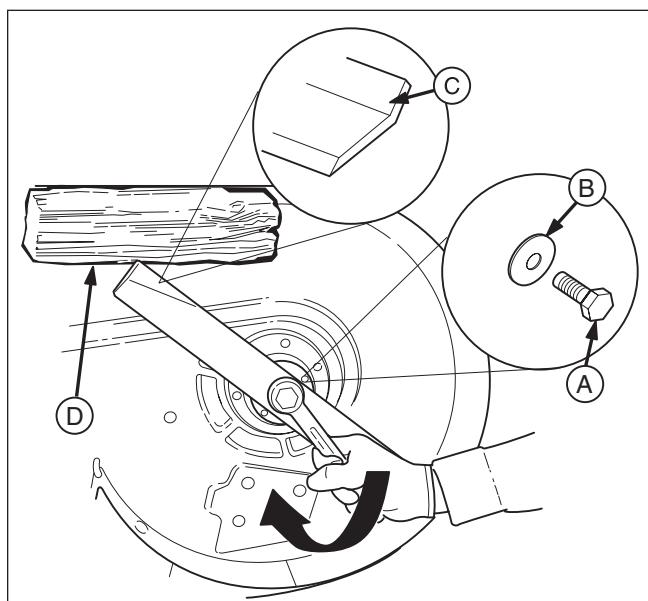

Figure 31. Tightening the Mower Blade for Installation
1. Reinstall each mower blade with the air lifts pointing up towards the mower deck as shown in Figure 31.
- 48" Models:** Secure with the mower blade mounting bolt and flat washer (A & B, Figure 31) and torque to 70 ft. lbs (94 Nm).